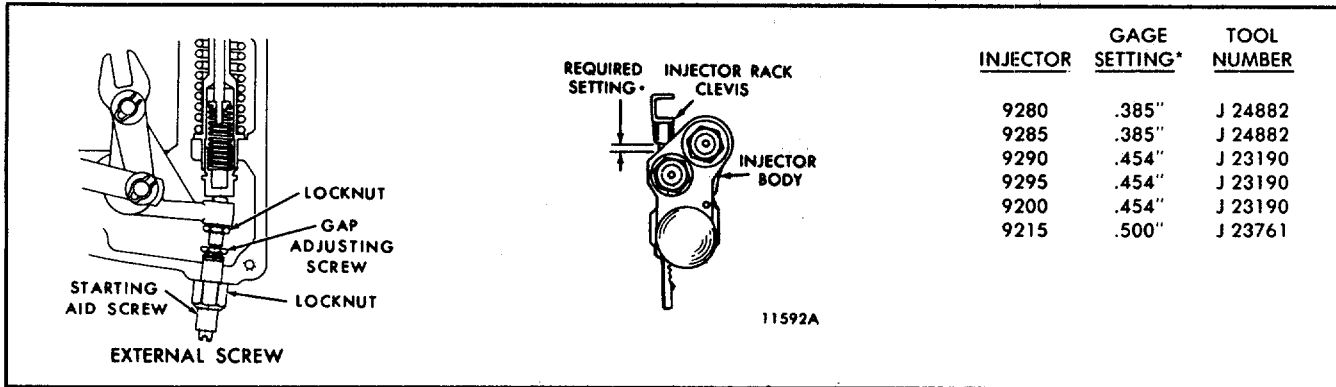

Fig. 6. - Starting Aid Screw Adjustment
The starting aid screw is threaded into the governor housing (Fig. 6). This screw is adjusted to position the injector racks at less than full fuel when the governor speed control lever is in the idle position. The reduced fuel makes starting easier and reduces the amount of smoke on start-up.
- b. Adjust the starting aid screw to obtain the required setting between the shoulder on the injector rack clevis and the injector body (Fig. 6). Select the proper gage and measure the setting at any convenient cylinder. When the starting aid screw is properly adjusted, the gage should have a small clearance of 1/64" in the space along the injector rack shaft between the rack clevis and the injector body.